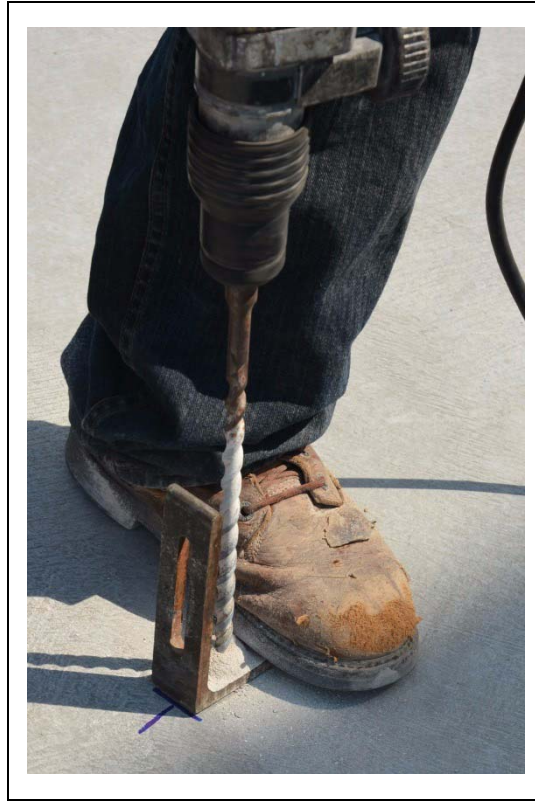

Figure 7I
11. Stretch a string from the center to each mark on the diameter and make a small perpendicular mark across on the outside of the diameter and also one 12" from the diameter. (See Figure 7I.)